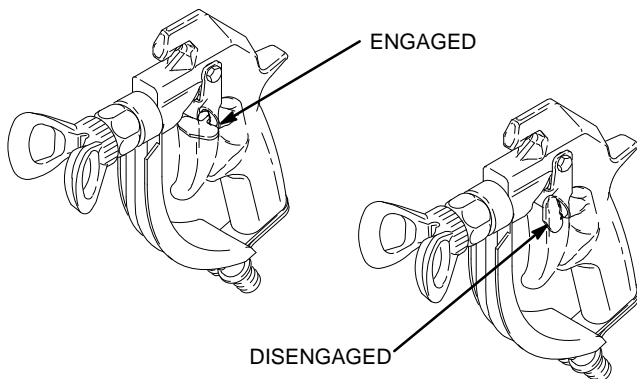

Fig. 1
Whenever you stop spraying, even for a moment, always set the trigger safety latch in the engaged or “safe” position, making the gun inoperative. Failure to set the trigger safety latch can result in accidental triggering of the gun. See Fig. 1.
1. To engage the trigger safety latch, turn the latch (A) to a right angle with the gun body. See Fig. 1.
2. To disengage the trigger safety latch, push the latch (A) out and turn it parallel with the gun body.
3. Follow the **Pressure Relief Procedure** on page 2. Be sure the trigger safety latch is engaged. See Fig. 1.